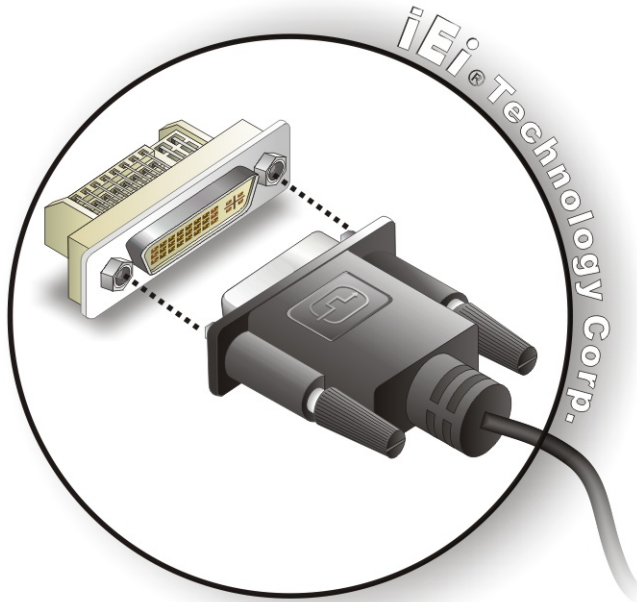

Figure 3-16: DVI Connector
Step 3: Insert the DVI-I connector Once the connectors are properly aligned with the male connector, insert the male connector from the digital display device into the female connector on the ECN-581A-R11/QM57-I5. See Figure 3-16.